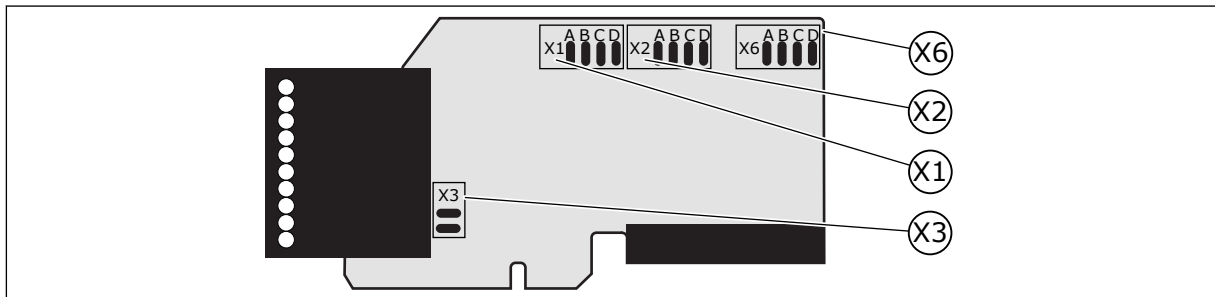

Fig. 26: Jumper blocks on OPTA1
*) See Fig. 26 Jumper blocks on OPTA1.
On the A1 basic board, there are 4 jumper blocks: X1, X2, X3 and X6. Each jumper block contains 8 pins and 2 jumpers. See the possible jumper selections in Fig. 26.